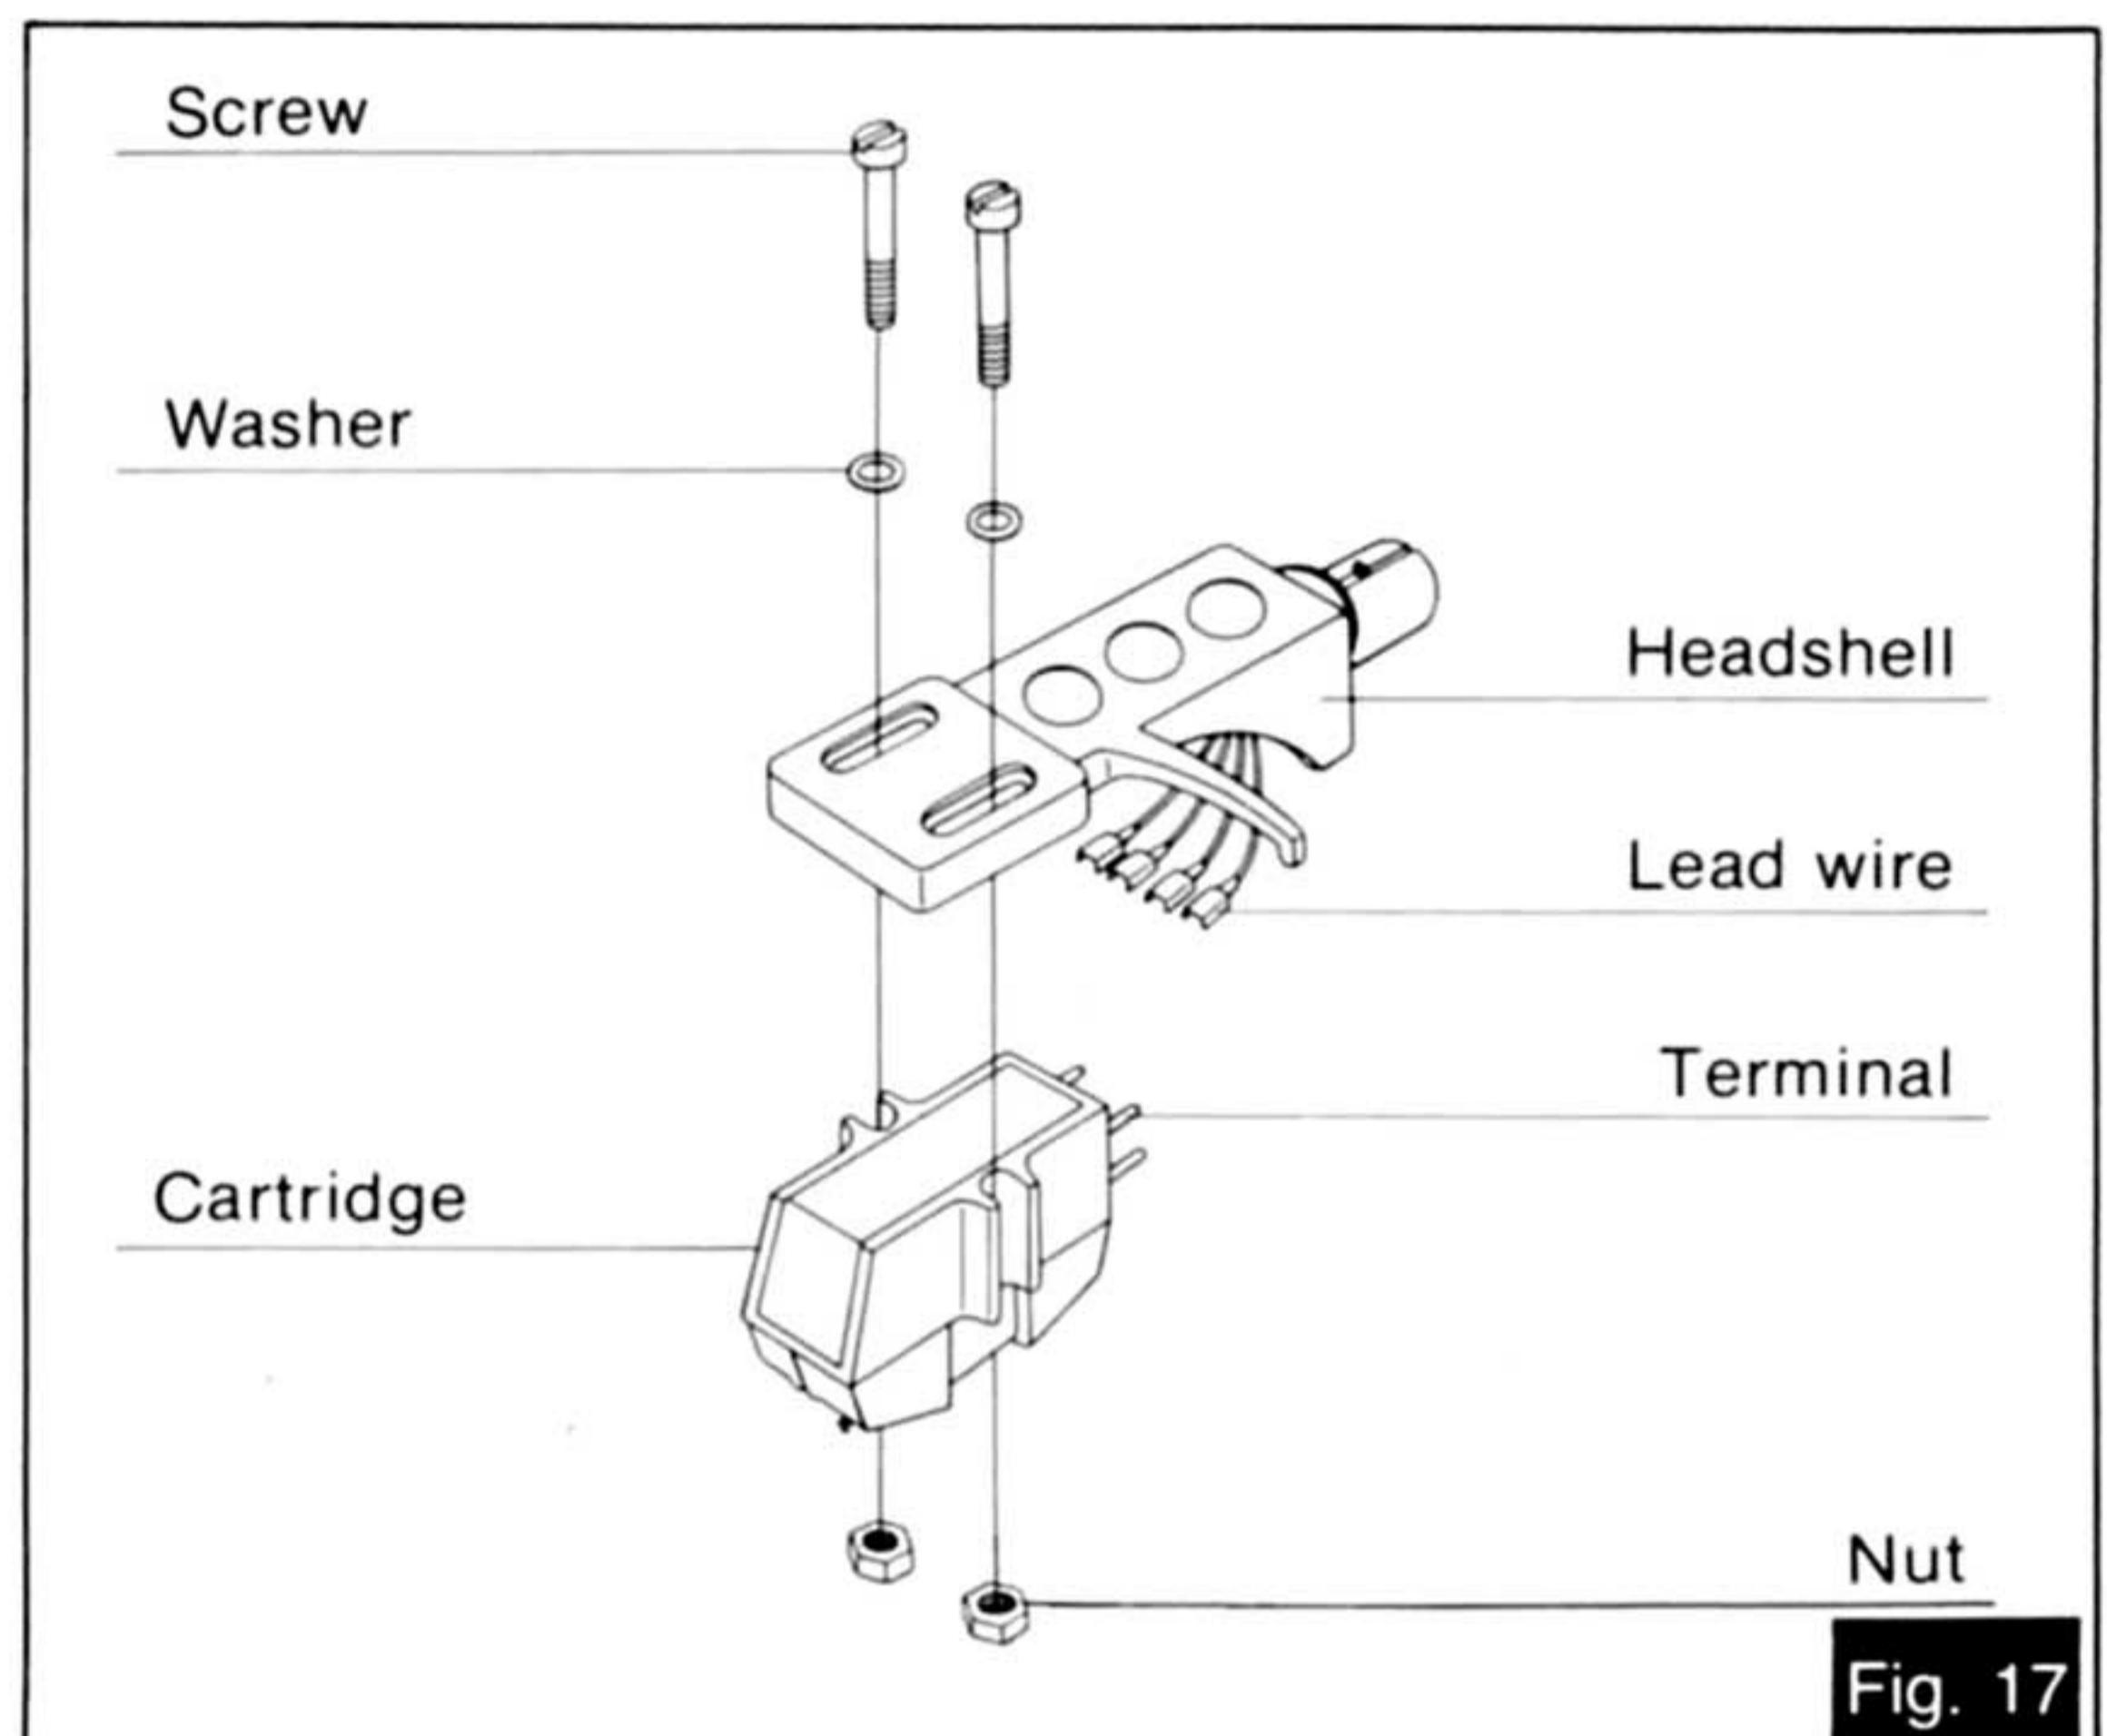

Fig. 17
2. Install a cartridge to the spacer, and tighten it with screws provided with the cartridge. (See Fig. 17.)